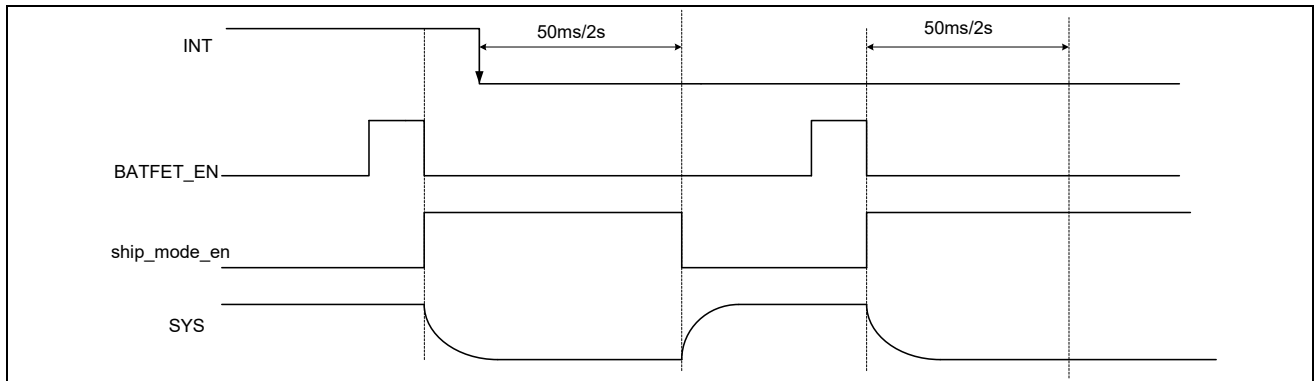

Figure 8. Enter Shipping mode and Exit Shipping mode by INT Low Level
During the normal operation, the battery MOSFET is turned on and this bit is 0. If this bit is set to 1 through I2C, the battery MOSFET is turned off, and the ET9562 enters shipping mode. The BATFET\_EN bit is reset to 0 automatically after the battery MOSFET is turned off(refer to Figure 8).
1.1) When the IC is in the shipping mode and only the Battery is present, pulling INT down by pushing KEY1 (see the "TYPICAL APPLICATION CIRCUIT" ) could wake the ET9562 up from shipping mode. (refer to Table 2 and Figure 8)